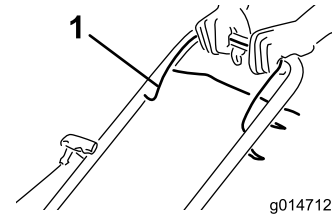

Figure 12
1. Hold the blade-control bar (Figure 12) against the handle.